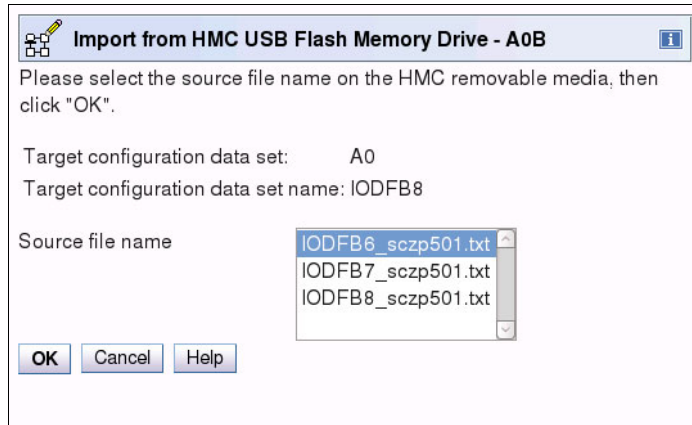

Figure 6-132 HMC - SAIOCP: select source file
13. Select the source file name and click **OK** (Figure 6-132).